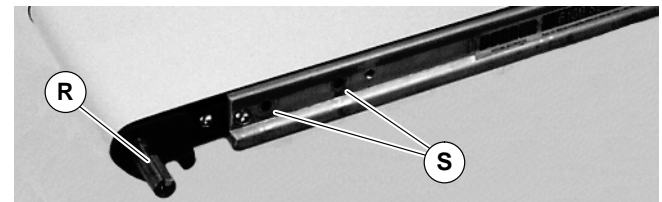

Figure 4
2. Locate drive output shaft (R of Figure 4) and remove two (2) screws (S).